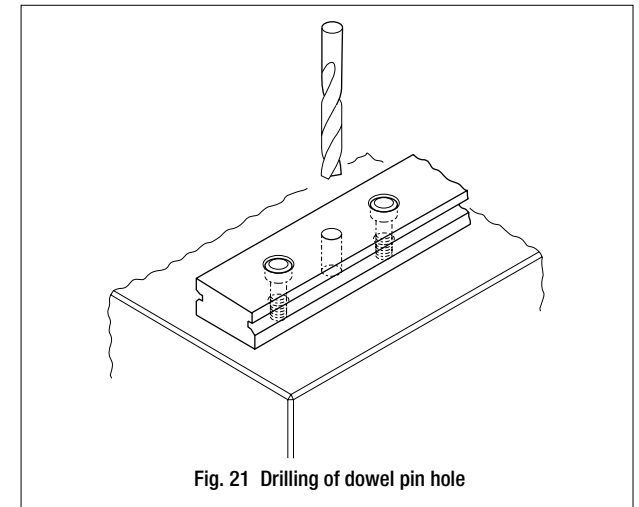

Fig. 21 Drilling of dowel pin hole
### ④ Drilling for dowel pin hole (Fig. 21)